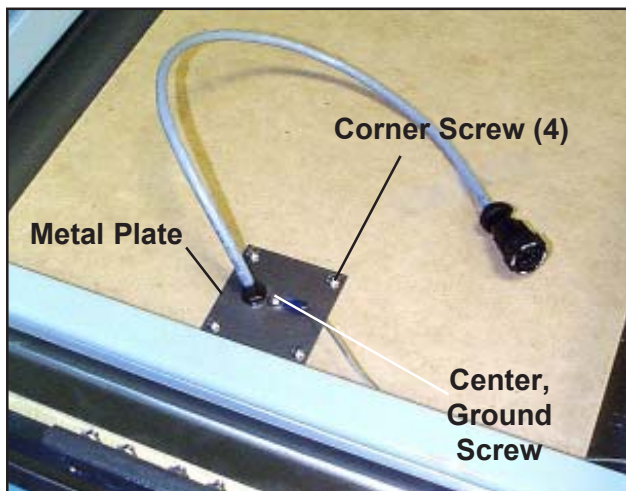

Figure 23. Heat Controller Cord Plate
3. The cord is secured to the table with a 2-1/2 in. square metal plate (Figure 23). With a Phillips screwdriver, remove the four corner screws that hold this plate to the table. DO NOT remove the center, ground screw at this time.